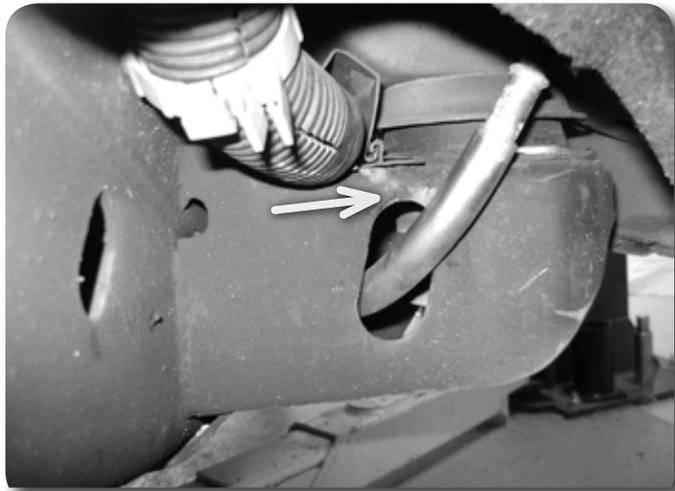

Figure 10
13. The parking brake cable may need additional clearance at the body mount opening. Cut this opening up approximately 7/16" to allow enough slack. Figure 10